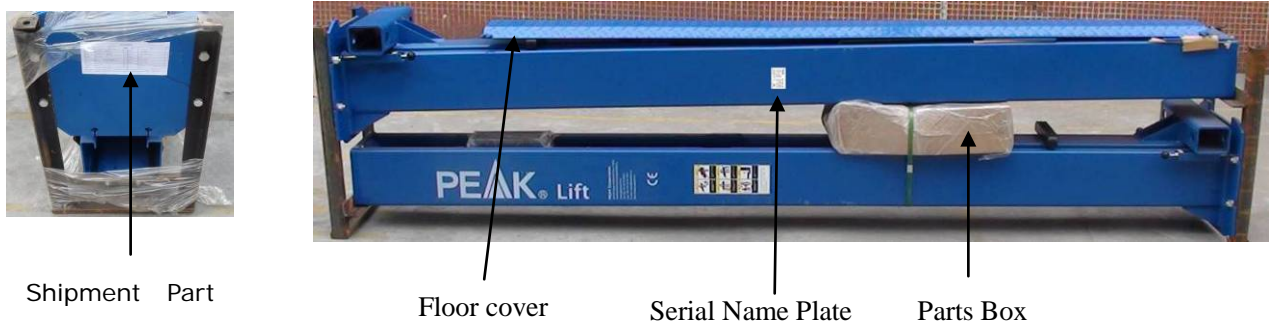

Fig. 7
2. Move aside the lift with fork lift or hoist, and open the outer packing carefully, take off the parts from upper and inside the column, take out the parts box, check the parts according to the shipment parts list (See Fig. 7).